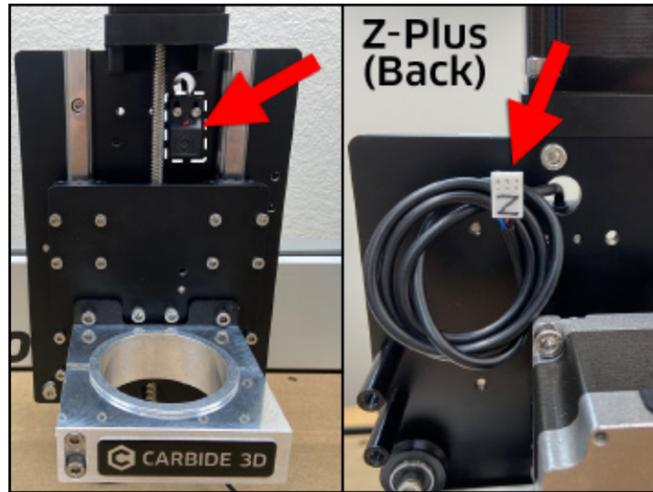

Figure 6-4
The Shapeoko 3 has three inductive proximity switches. The Z-Axis proximity switch is pre-installed on the front of the Z-Plus. See **Figure 6-4**. The X- and Y-Axis proximity switches will be attached to mounting plates and then mounted to the X- and Y-Axes respectively.
1. Use the included permanent marker to label the Z-Axis proximity switch cable connector with a "Z" as shown in **Figure 6-4**.